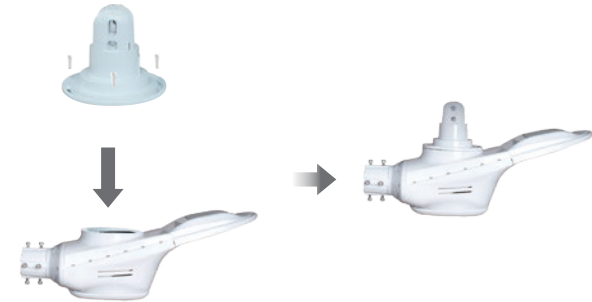

Figure 3
- 2 Rotating platform:** Use 6pcs M6x12 screws to fix the 360° rotating platform, according to the orientation of the road. (See Figure 3)